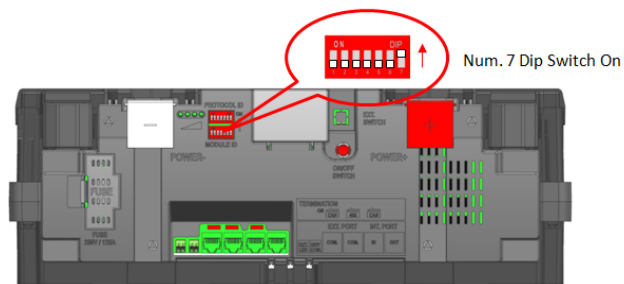

Figure 18 : Location of ID Dip-switch
- 2) Switch number 7 of ID Dip Switch is set for BMS power on: Refer the Figure 18